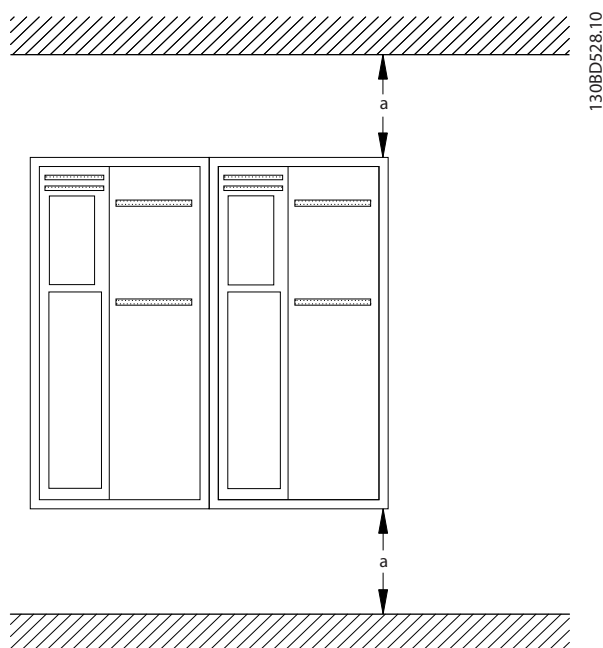

Figure 3.2 Top and Bottom Cooling Clearance
- Ensure that top and bottom clearance for air cooling is provided. See Figure 3.2 for clearance requirements.